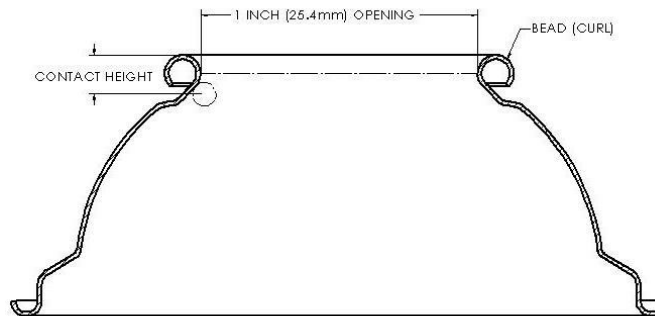

Figure 2 – Can Dome Cross-Section
- a. Dome: The can's dome is the top portion of the container. It may be formed as part of the can or manufactured separately and then attached. The dome contains a center opening encircled by a raised bead, also called the curl. For this paper we will be discussing only cans with a 1-inch (25.4mm) opening (see Figure 2).
1. Bead (Curl): This area of the can to which the valve is attached (see Figure 2).